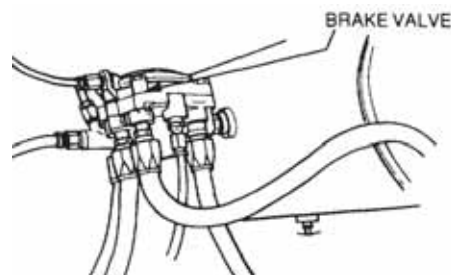

**Figure 5 Brake Relay Valve (CA43)**
22. **Removal.** Remove the brake relay valve as follows (Figure 5):
- 23. **Installation.** Install the brake relay valve as follows (Figure 5):